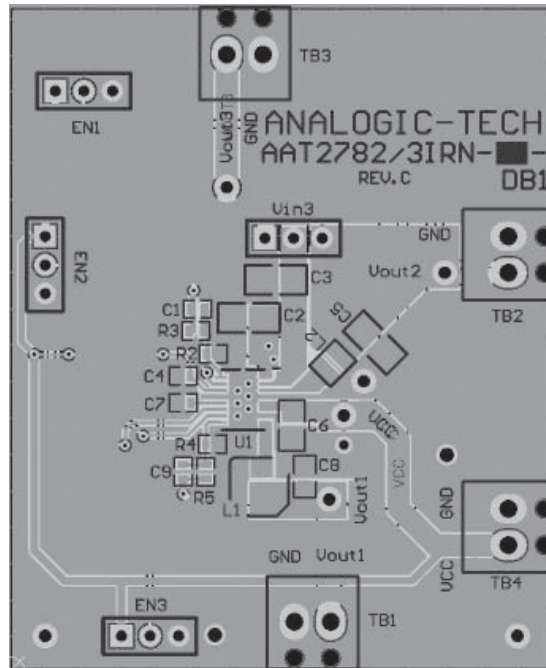

Figure 2: AAT2782 Evaluation Board Component Side Layout.
The term $\frac{V_O}{V_{IN}} \cdot \left(1 - \frac{V_O}{V_{IN}}\right)$ appears in both the input voltage ripple and input capacitor RMS current equations and is a maximum when V_O is twice V_{IN} . This is why the input voltage ripple and the input capacitor RMS current ripple are a maximum at 50% duty cycle. The input capacitor provides a low impedance loop for the edges of pulsed current drawn by the AAT2782. Low ESR/ESL X7R and X5R ceramic capacitors are ideal for this function. To minimize stray inductance, the capacitor should be placed as closely as possible to the IC. This keeps the high frequency content of the input current localized, minimizing EMI and input voltage ripple. The proper placement of the input capacitor (C1) can be seen in the evaluation board layout in the Layout section of this datasheet (see Figure 2). A laboratory test set-up typically consists of two long wires running from the bench power supply to the evaluation board input voltage pins. The inductance of these wires, along with the low-ESR ceramic input capacitor, can create a high Q network that may affect converter performance. This problem often becomes apparent in the form of excessive ringing in the output voltage during load transients. Errors in the loop phase and gain measurements can also result. Since the inductance of a short PCB trace feeding the input voltage is significantly lower than the power leads from the bench power supply, most applications do not exhibit this problem. In applications where the input power source lead inductance cannot be reduced to a level that does
The suggested PCB layout for the AAT2782 is shown in Figures 2 and 3. The following guidelines should be used to help ensure a proper layout.
1. The power input capacitors (C6) should be connected as closely as possible to VP1 and VP2, The LDO input capacitor (C3) should be close to VIN3 as shown in Figure 2. Due to the pin placement of VP1, VP2 and VIN3 for all converters, proper decoupling is not possible with just one input capacitor.